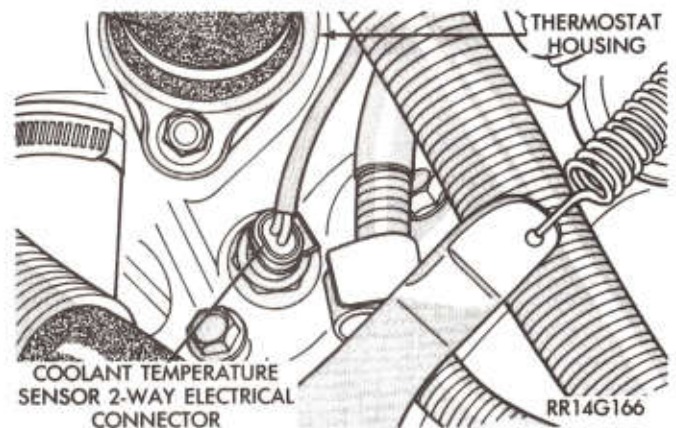

Fig. 2—Coolant Temperature Sensor
COOLANT TEMPERATURE SENSOR (Fig. 2)
(1) Disconnect Electrical Connector from sensor. Remove sensor from engine (Fig. 2). Engine Coolant may be lost.
(2) Install sensor and torque to 20 ft. lbs. Reconnect electrical connector (Fig. 2).
(3) Replace any lost engine coolant (Refer to Group 7 Cooling System).